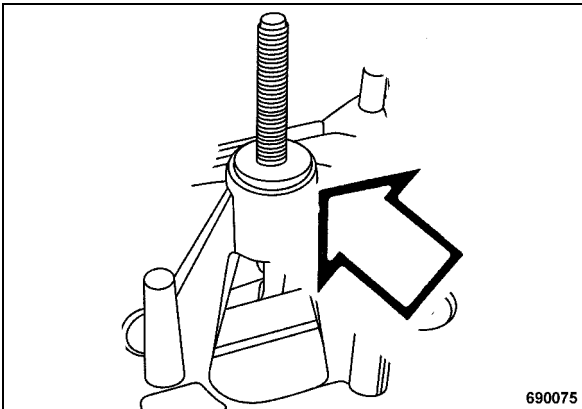

Fig. 47
- Check the rubber seal (Fig. 47), replace the rubber seal if it is damaged.